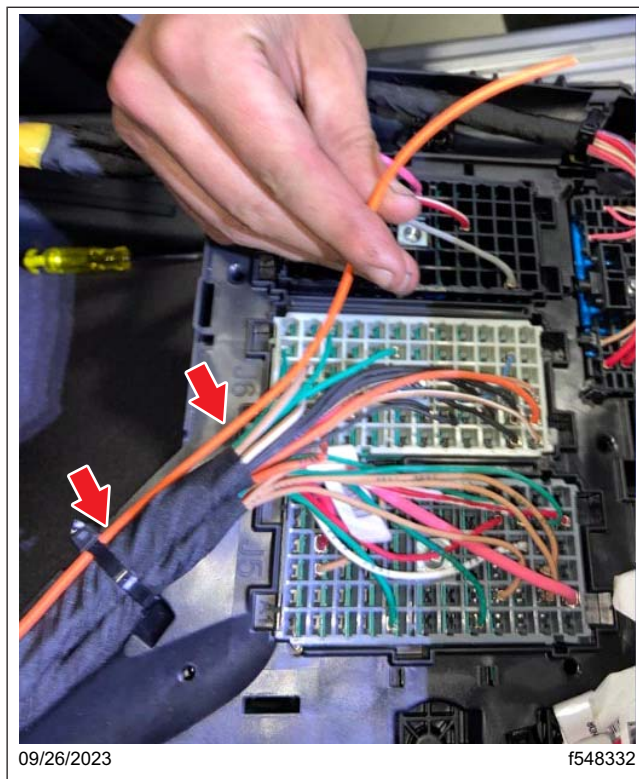

Fig. 64, Securing the Orange (or pink) Wire Routed to the VPDM
- 14.1 Secure the orange (or pink) wire routed to the VPDM in substep 12.7 to the main harness with zip ties as needed. See Fig. 64.